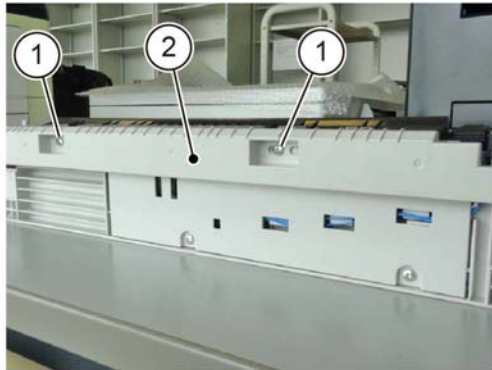

Figure 1 Low chute removal
2. Remove the bypass tray low chute, Figure 1:
- a. Remove two screws (1).
- b. Remove the bypass tray low chute (2).